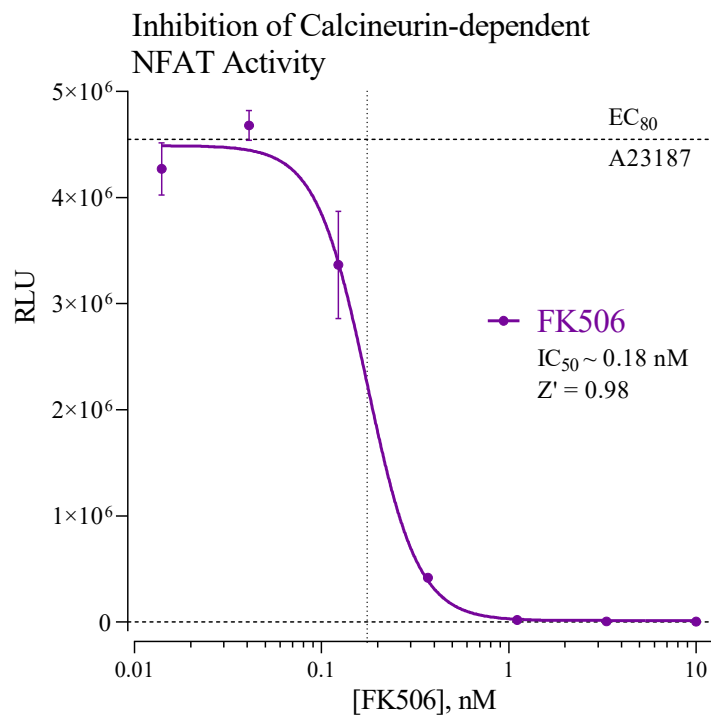

Figure 3. Calcineurin / NFAT Pathway Inhibition Assay.
- *Optional:* reference antagonist (refer to Fig. 3)